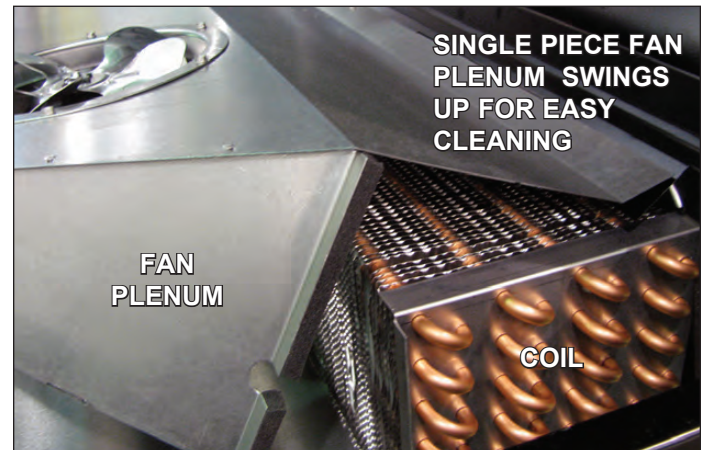

Fig. 18 Single-piece fan plenum and coil cover
- Lift the fan plenum to gain access to the coil for cleaning and maintenance (Fig. 18).